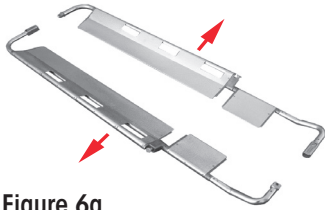

Figure 6a
3. Repeat point 2 to open the foot side (Figure 6a).